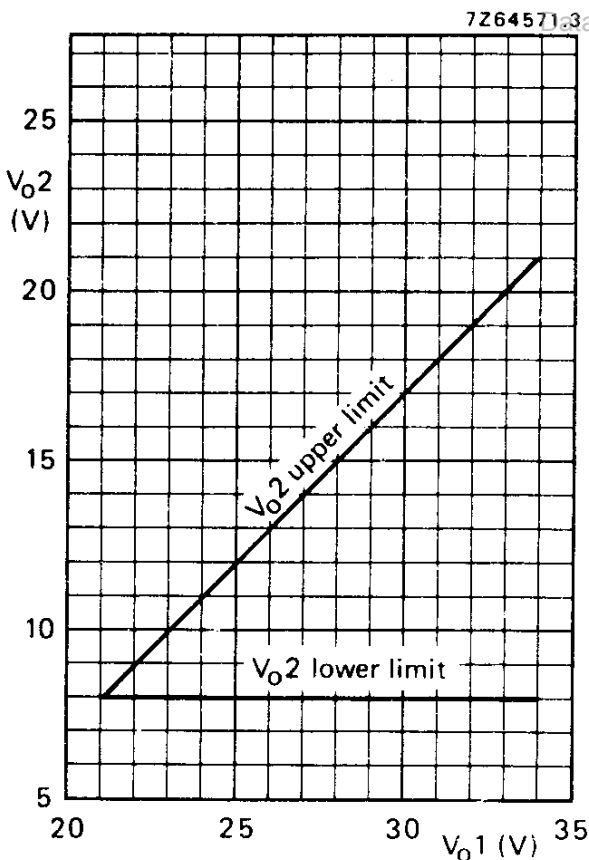

Fig. 6 Range of values for V_{O2} .
10. V_{O2} depends on the value of V_{O1} (see Fig. 6); adjustable with RA_2 .